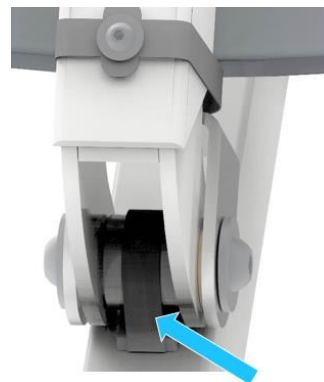

Figure 6 – Detaching Velcro tape holding the lifting arm
- Detach the Velcro tape holding the lifting arm (Figure 6);